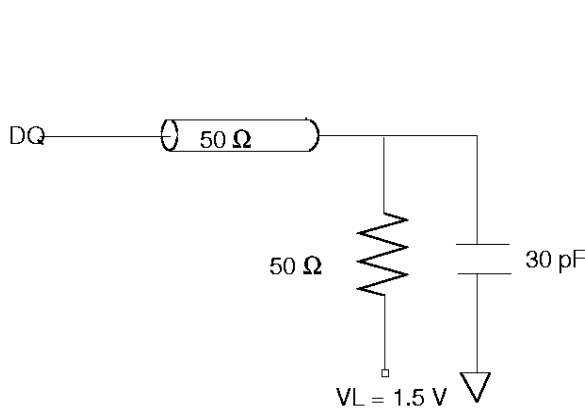

Fig. 1 Test Equivalent Load
<ol style="list-style-type: none"> See AC Test Loading figure 1 on page 8.
3. See AC Test Loading figure 1 on page 8.